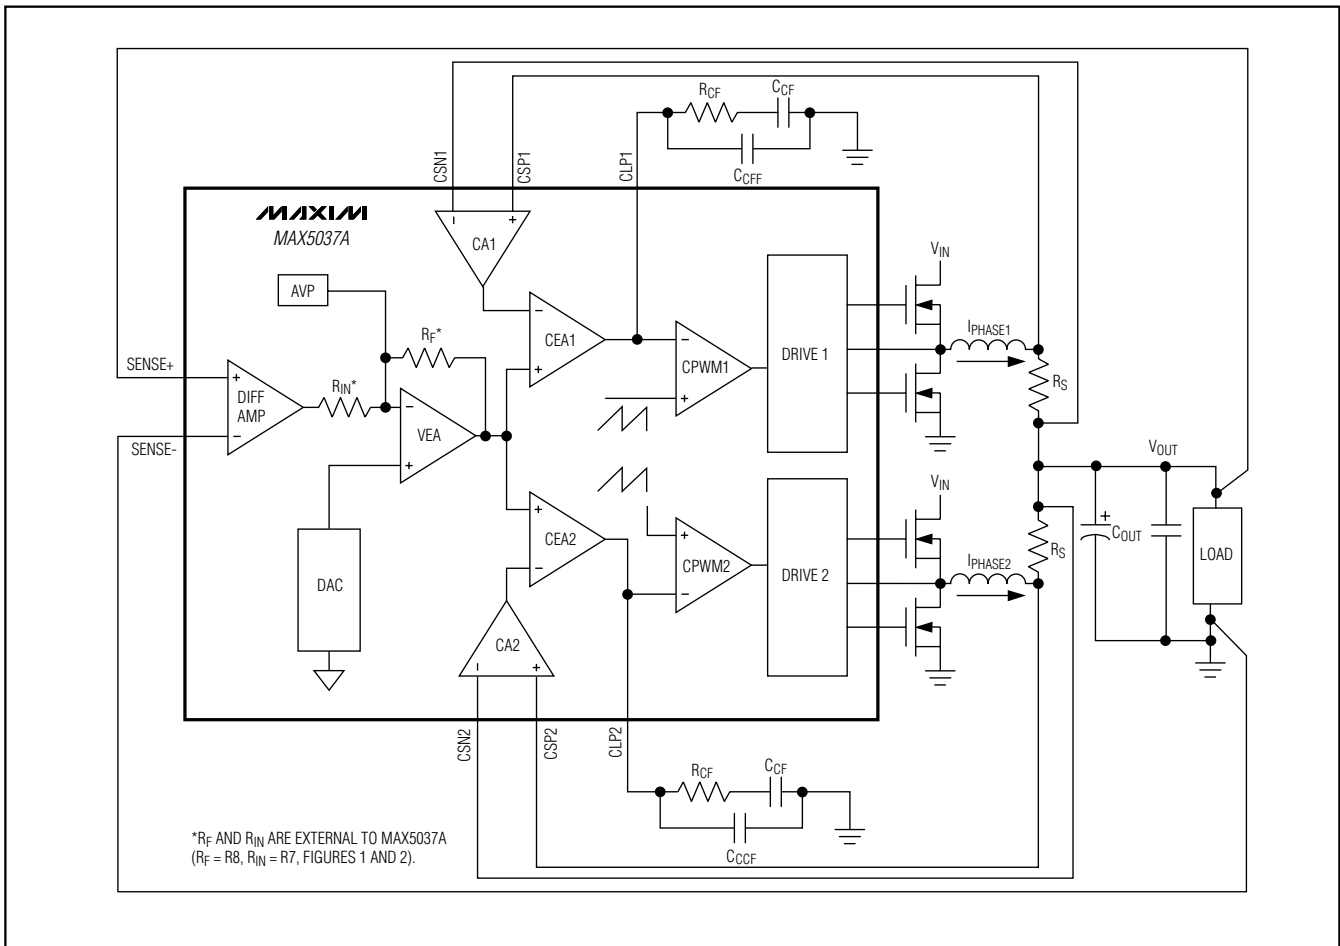

Figure 3. MAX5037A Control Loop
The MAX5037A uses an average-current-mode control scheme to regulate the output voltage (Figure 3). The main control loop consists of an inner current loop and an outer voltage loop. The inner loop controls the output currents (I_{PHASE1} and I_{PHASE2}), while the outer loop controls the output voltage. The inner current loop absorbs the inductor pole reducing the order of the outer voltage loop to that of a single-pole system.
The outer voltage control loop consists of the differential amplifier (DIFF AMP), adaptive voltage-positioning (AVP) block, digital-to-analog converter (DAC), and voltage-error amplifier (VEA). The unity-gain differential amplifier provides true differential remote sensing of the output voltage. The differential amplifier output and the AVP connect to the inverting input (EAN) of the VEA. The noninverting input of VEA is internally connected to the DAC output. The VEA controls the two inner current loops (Figure 3). Use a resistive feedback network to set the gain of the VEA as required by the adaptive voltage-positioning circuit.
Each phase of the MAX5037A has a dedicated transconductance current-error amplifier (CEA₋) with a typical g_m of 550 μ S and 320 μ A output sink and source current capability. The CEA₋ outputs, CLP1 and CLP2, serve as the inverting input to the PWM comparator. CLP1 and CLP2 are externally accessible to provide frequency compensation for the inner current loops (Figure 3). Compensate CEA₋ such that the inductor
The unity-gain differential amplifier (DIFF AMP) facilitates the output voltage remote sensing at the load (Figure 3). It provides true differential output voltage sensing while rejecting the common-mode voltage errors due to high-current ground paths. Sensing the output voltage directly at the load provides accurate load voltage sensing in high-current environments. The VEA provides the difference between the differential amplifier output (DIFF) and the desired VID programmed output voltage. The differential amplifier has a unity-gain bandwidth of 3MHz. The difference between SENSE+ and SENSE- regulates to the programmed VID output voltage.
The VEA output clamps to 0.9V relative to V_{CM} (0.6V), thus limiting the average maximum current from individual phases. The maximum average current-limit threshold for each phase is equal to the maximum clamp voltage of the VEA divided by the gain (18) of the current-sense amplifier. This results in accurate settings for the average maximum current for each phase. Set the VEA gain using R_F and R_{IN} for the amount of output voltage positioning required within the rated current range as discussed in the *Adaptive Voltage Positioning* section (Figure 3).